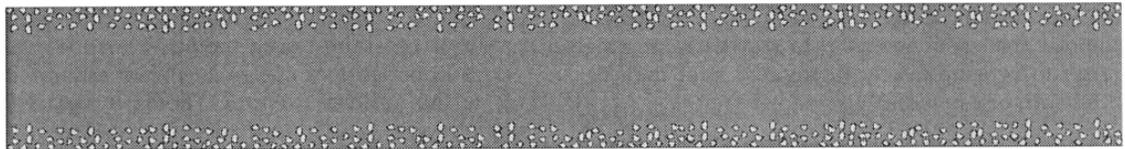

Figure 3. Joint/Edge Segregation.
3. **Joint/Edge Segregation:** Figure 3 shows that the next most prevalent type of segregation, which occurs at the outside or the outer edges of the pavement being placed. This commonly occurs from the augers not being run at sufficient speeds on the paver, allowing the coarse aggregate to roll to the outside of the mat.